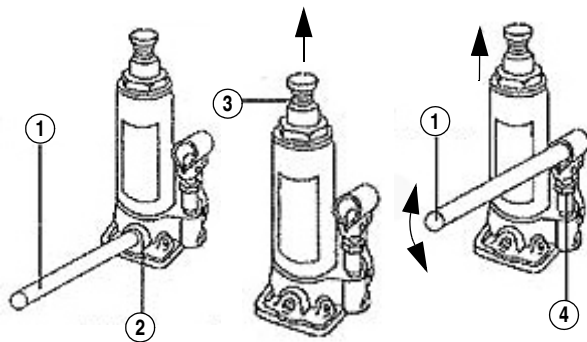

Fig. 5: Workflow
Step 1: Close the open drain valve (Pos. 2, Fig. 5) by turning the narrow end of the pump lever to the right (Pos. 1, Fig. 5).
Step 2: Place the jack under the vehicle to be lifted, under the lifting points intended for the jack (refer to your vehicle's owner's manual). If necessary, turn the extension screw (Pos.3, Fig.5) counter-clockwise out of the jack until it touches the vehicle. The exact mounting point can be determined as follows.
Step 3: Insert the pump lever (Pos. 1, Fig. 5) in the pump (Pos. 4, Fig. 5) and move the lever evenly up and down. Lift the vehicle up to the desired height.